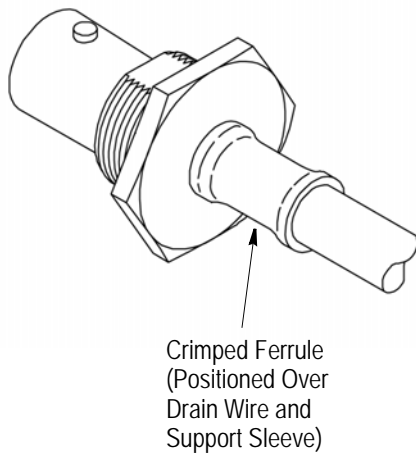

Figure 5
3. Insert center conductor into contact; then crimp contact using the appropriate crimping tool. See Figure 5, Detail A.
4. Insert center contact into bulkhead jack body, making sure that the drain wire is doubled over the connector support sleeve. See Figure 5, Detail B.
5. Slide ferrule over drain wire and support sleeve; then crimp the ferrule using the appropriate crimping tool. See Figure 5, Detail C.